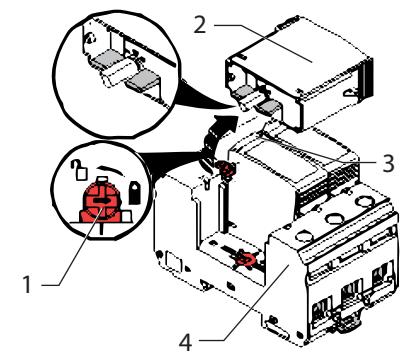

Figure 50: DC overvoltage protection
1. Check individual modules using the status display (pos. 3 in Figure 50).